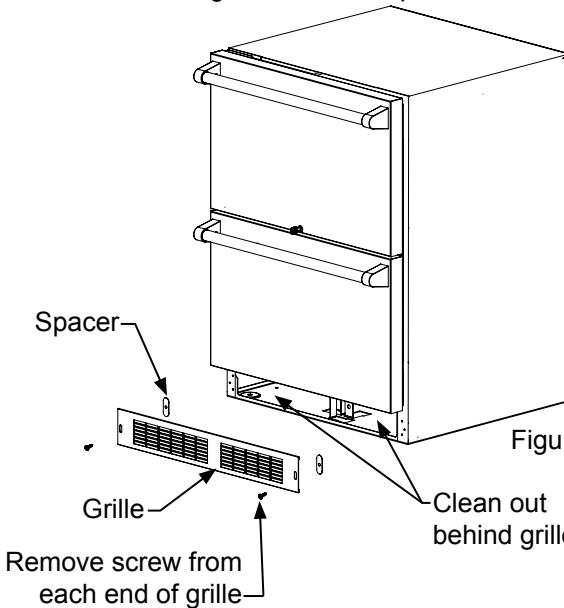

Figure 14
8. Remove the front toe-grille, (see Figure 14), and use a brush and vacuum to clean dirt and debris from beneath the unit.
9. Thoroughly clean the toe-grille and re-install on the unit. (See Figure 14).